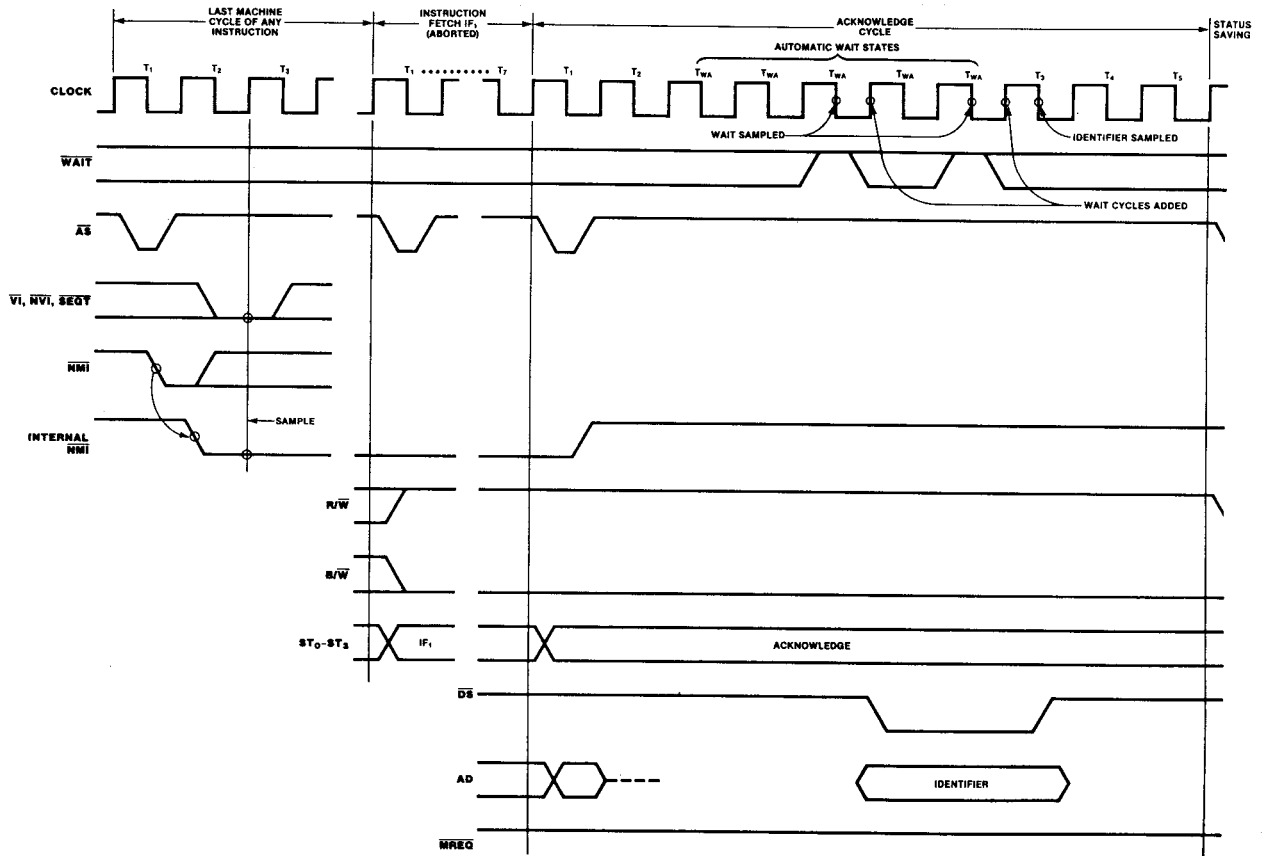

Figure 9-6. Interrupt and Segment Trap Request and Acknowledge Transition.
These transactions are eight clock cycles long at a minimum (as shown in Figure 9-6), having five automatic WAIT cycles. The WAIT cycles are used to give the interrupt priority daisy chain (or other priority resolution device) time to settle before the identifier word is read. (Consult the *Z-Bus Summary* for more information on the operation of the priority daisy-chain).
As shown in Figure 9-6, there are two places where \overline{WAIT} is sampled, and thus a \overline{WAIT} cycle may be inserted. The first serves to delay the falling edge of \overline{DS} to allow the daisy chain a longer time to settle, and the second serves to delay the point at which data is read.
9.6.1 Interrupt/Trap Request. The Z8000 CPU supports three interrupts and one external trap (segment trap) as shown in Figure 9.6. The Interrupt Request line ($\overline{\text{INT}}$) of a device that is capable of generating an interrupt may be tied to any of the three Z8000 interrupt pins ($\overline{\text{NMI}}$, $\overline{\text{NVI}}$, $\overline{\text{VI}}$). Several devices can be connected to one pin, the devices arranged in a priority daisy chain (see the *Z-Bus Summary*). The segment trap pin ($\overline{\text{SEGT}}$) is activated by the memory management hardware. The CPU uses the same protocol for handling requests on any of these pins. Here is the sequence of events that is followed: